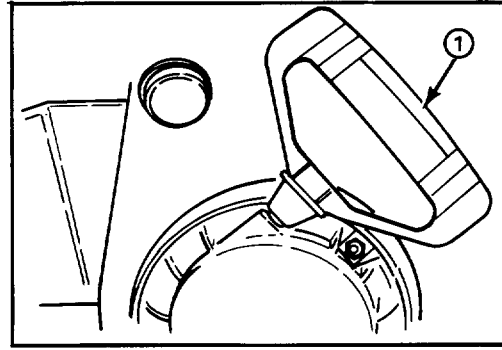

Figure 13
Recoil Starter (Fig. 13) — Recoil starter is on back side of engine. Pull recoil starter to start engine.
6. Grasp recoil starter handle (Fig. 13) and pull it out slowly until positive engagement results; then pull vigorously to start the engine. Keep firm grip on starter handle and return the rope slowly.